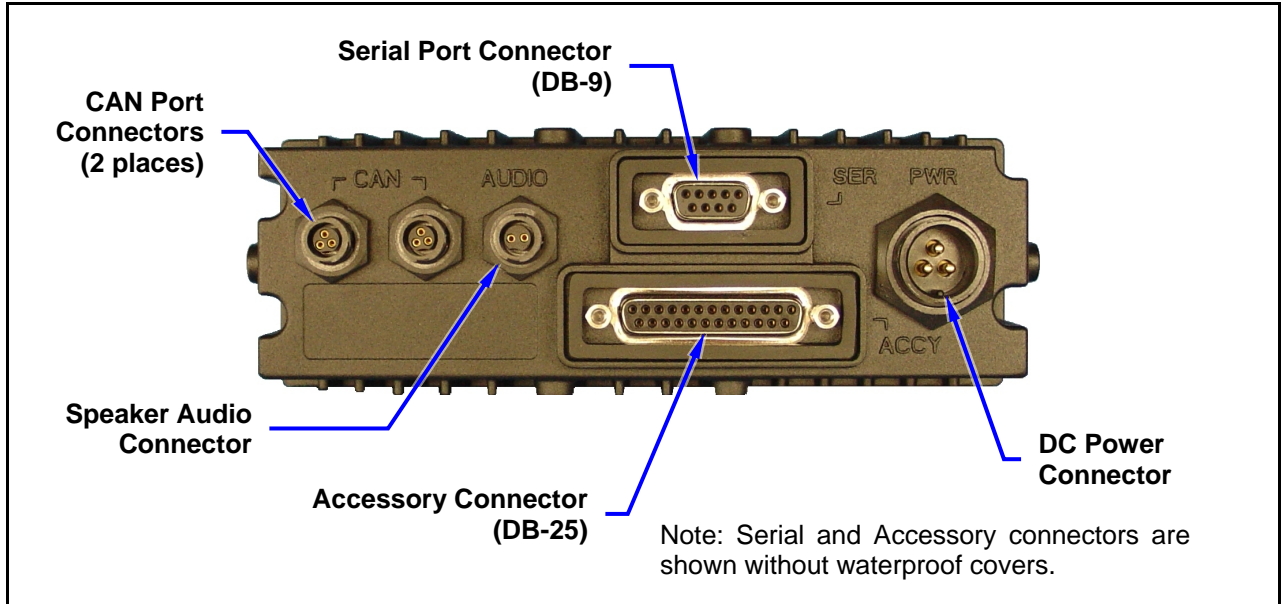

Figure 10-2: CH-721 Rear Panel
Figure 10-2 illustrates the control head's rear panel. Connectors on the rear panel include two (2) CAN port connectors, a speaker audio (output) connector and a 25-pin D-subminiature (DB-25) accessory connector, and a 9-pin D-subminiature (DB-9) serial port connector. The DB-25 accessory connector is used for connection of optional equipment to the control head, such as a siren/light control system. The DB-9 serial port connector is typically only used during programming performed at the factory.
Both the VRMS7010 and the control head have two CAN ports. Figure 5-1 on page 28 shows the radio’s two CAN port connectors, which are located on cable side of the I/O cable’s DB-44 connector. Figure 10-2 on page 49 shows the two ports on the control head’s rear panel.